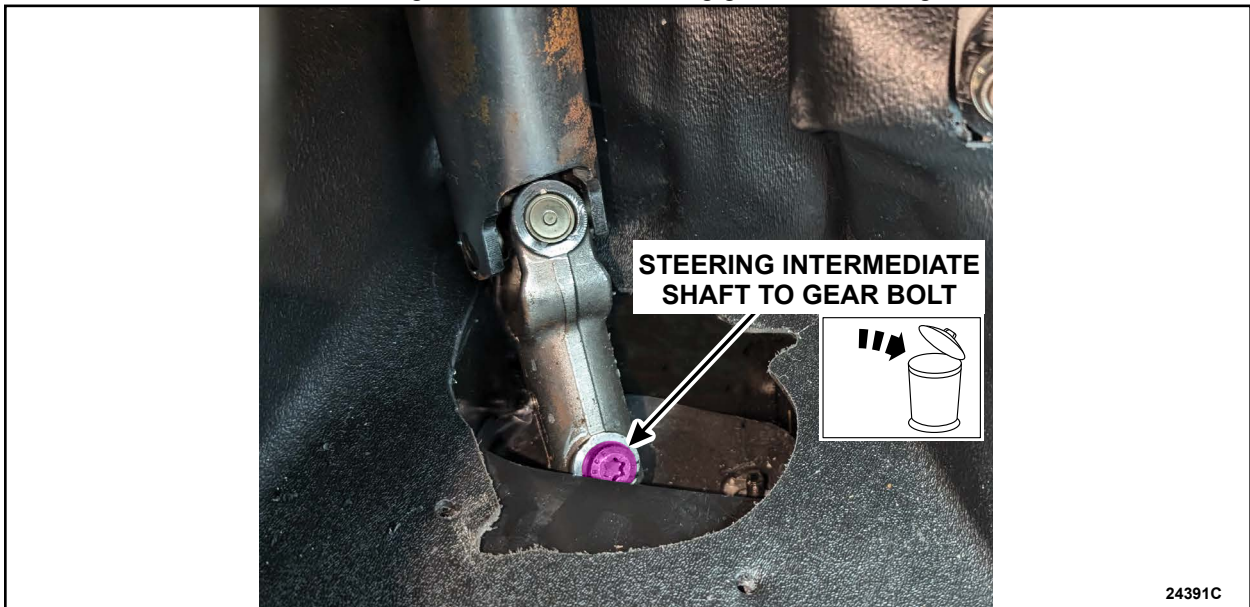

FIGURE 21
8. Remove and discard the steering column shaft to steering gear bolt. See Figure 21.